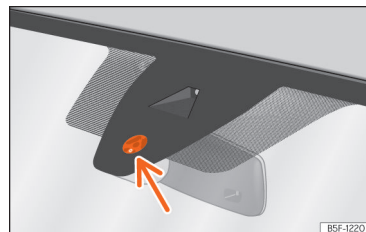

Fig. 74 Sensitive surface of the rain sensor.
The possible causes of anomalies and erroneous interpretations *in the sensitive surface area* »» Fig. 74 of the rain sensor are, among others:
- **Dirt:** dry dust, wax, coating on glass (Lotus effect) or traces of detergent (car wash) may reduce the effectiveness of the rain sensor or make it react more slowly, later or not at all. Regularly clean the sensitive surface of the rain sensor »» Fig. 74 (arrow) and check for possible damage to the wiper blades.